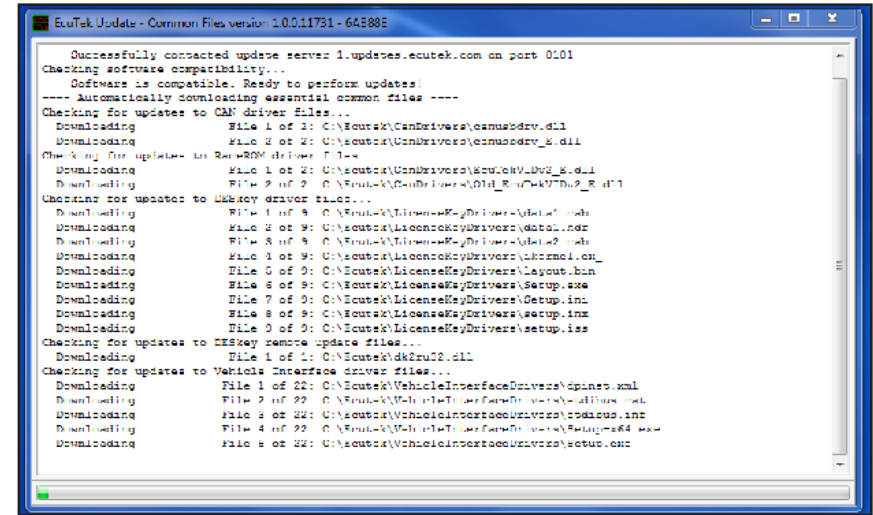

Fig. 1K
- K. Select [Download Now!]. You will see a new window appear that will show progress and details of what is being downloaded. This can take a few minutes, so please be patient. See Fig. 1K.